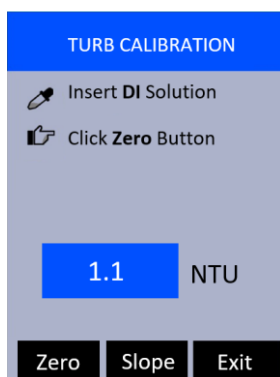

Figure 23.
1. Rinse the main module sample cell three times with deionized (DI) water. Fill the sample cell with DI water.
4. Press **OK** to launch the turbidity calibration screen (Figure 23).